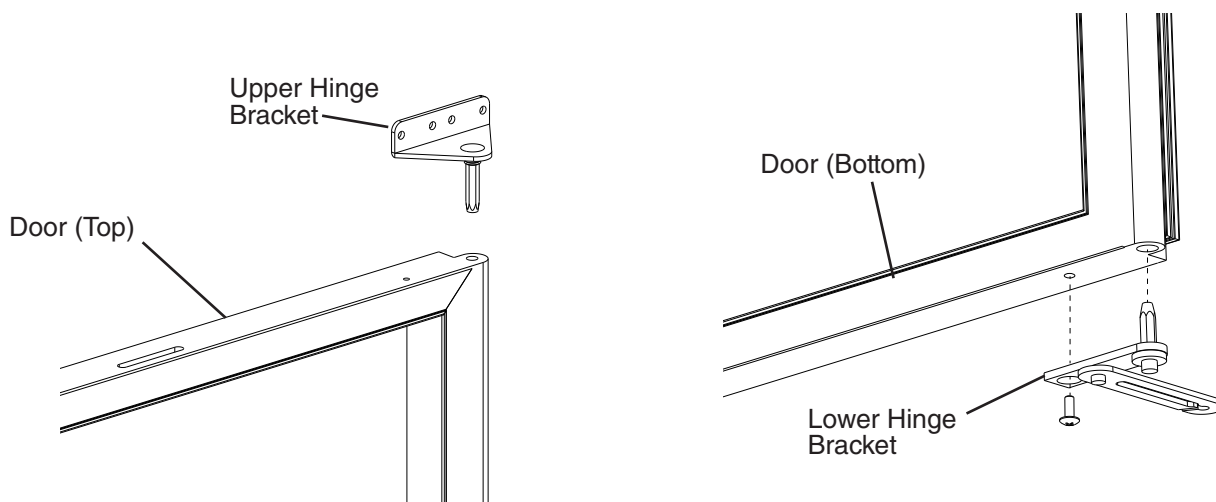

Fig. 40
- 14) Remove the upper and lower hinge brackets from the door. See Fig. 40.